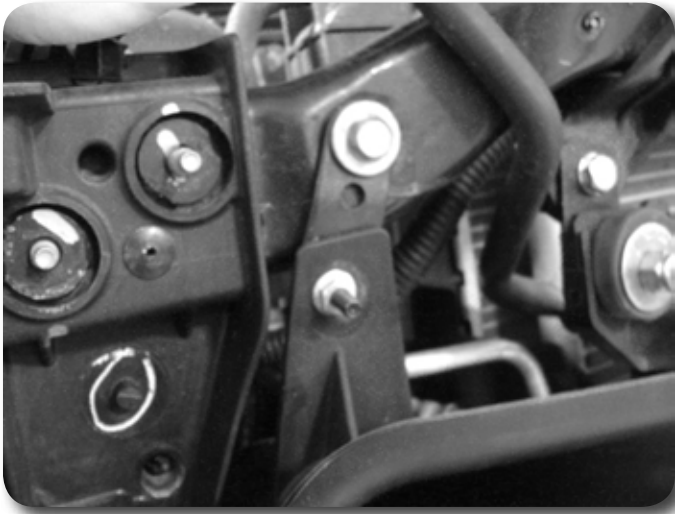

Figure 17a
21. Attach the active ram plastic piece to the core support with 1-1/2" relocation bracket. Drill 1/4" hole in core support and attach bottom portion to core support with zip tie. Figures 17a, 17b